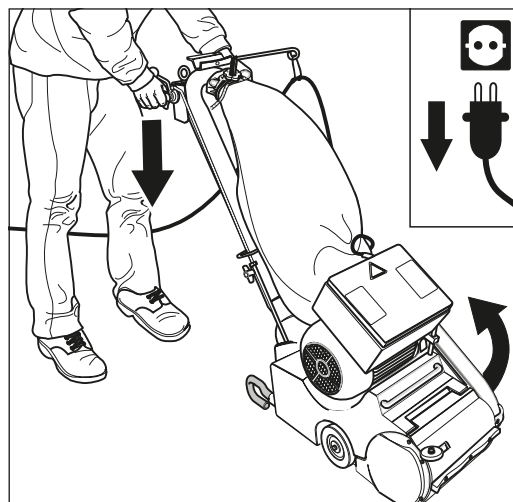
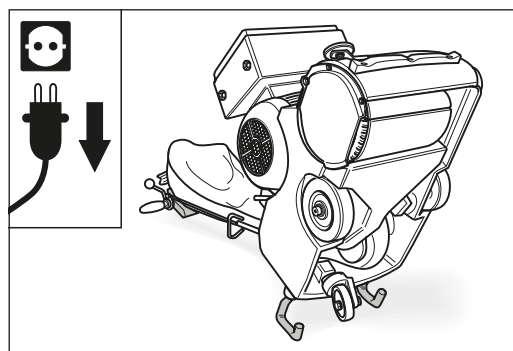

Fig. 69 Pull the power plug out of the socket and tilt the machine backwards over the safety guards.
Fig. 70 Place the machine carefully on the floor. **Ensure that the machine is standing securely!**
- 3 Tilt the machine backwards over the safety guards (fig. 69) so that you can see the wheel bearings and place it down carefully on the floor (fig. 70). **Ensure that the machine is standing securely!**
- 3 Tilt the machine backwards over the safety guards (fig. 69) and place it down carefully on the floor (fig. 70). **Ensure that the machine is standing securely!**